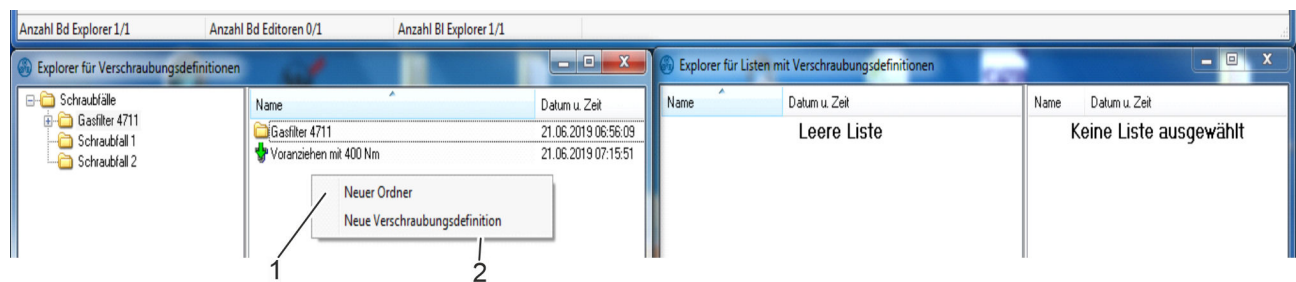

Fig. 26: Bolting definition browser
3. From the context menu, select new folder (Fig. 26/1) or new bolting definition (Fig. 26/2).